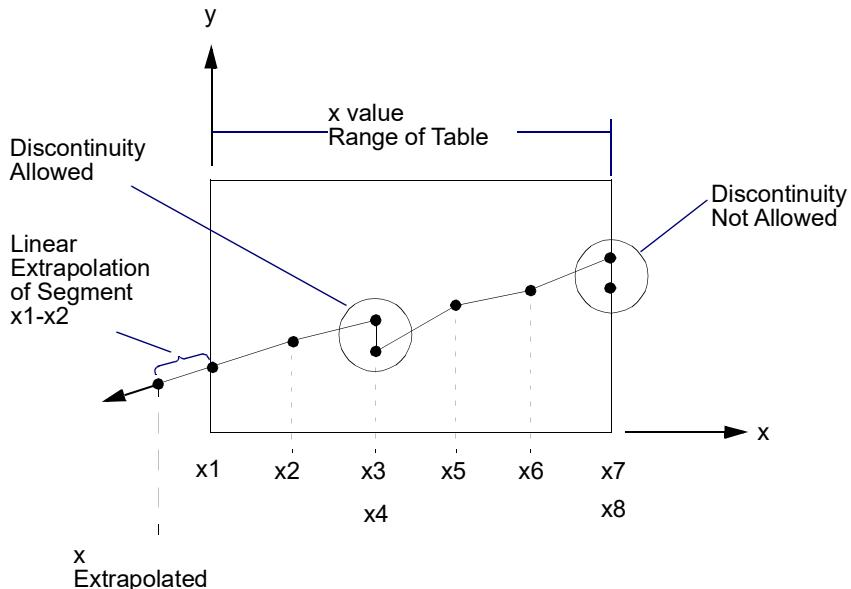

Figure 9-164 Example of Table Extrapolation and Discontinuity
2. Discontinuities may be specified between any two points except the two starting points or two end points. For example, in Figure 9-164, discontinuities are allowed only between points x2 through x7. Also, if y is evaluated at a discontinuity, then the average value of y is used. In Figure 9-164, the value of y at x = x3 is $y = (y3 + y4)/2$.
where x is input to the table, y is returned and z is supplied from the MATi entry. The table look-up is performed using linear interpolation within the table and linear extrapolation outside the table using the two starting or end points. See Figure 9-164. No warning messages are issued if table data is input incorrectly.